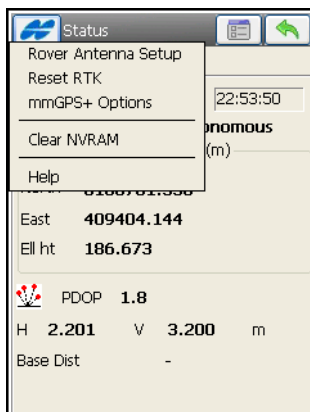

Figure A-21. mmGPS+ Options
1. On the *Status* screen (**Setup ▶ Status**), tap the **bitmap** menu in the upper-left corner of the screen, and select **mmGPS+ Options** (Figure A-21). The *mmGPS+ Opts* screen displays.